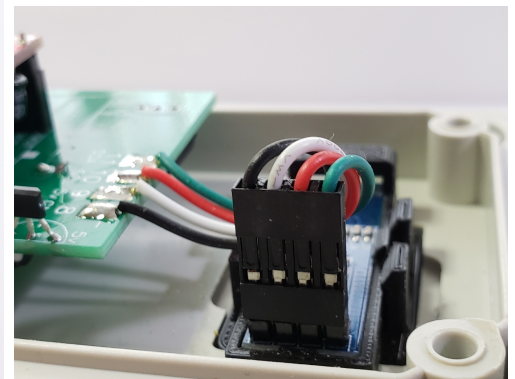

fig 12b
- 7) Push the connector onto the OLED pins so that they align as shown in fig 12b.